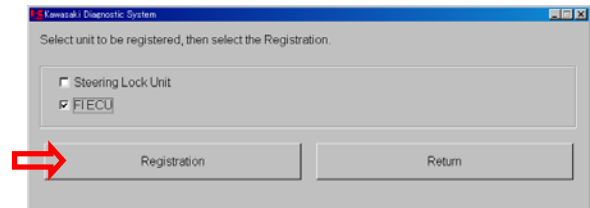

Fig. 5-49 FI ECU Selection
- Select *FI ECU* then *Registration* Fig. 5-49